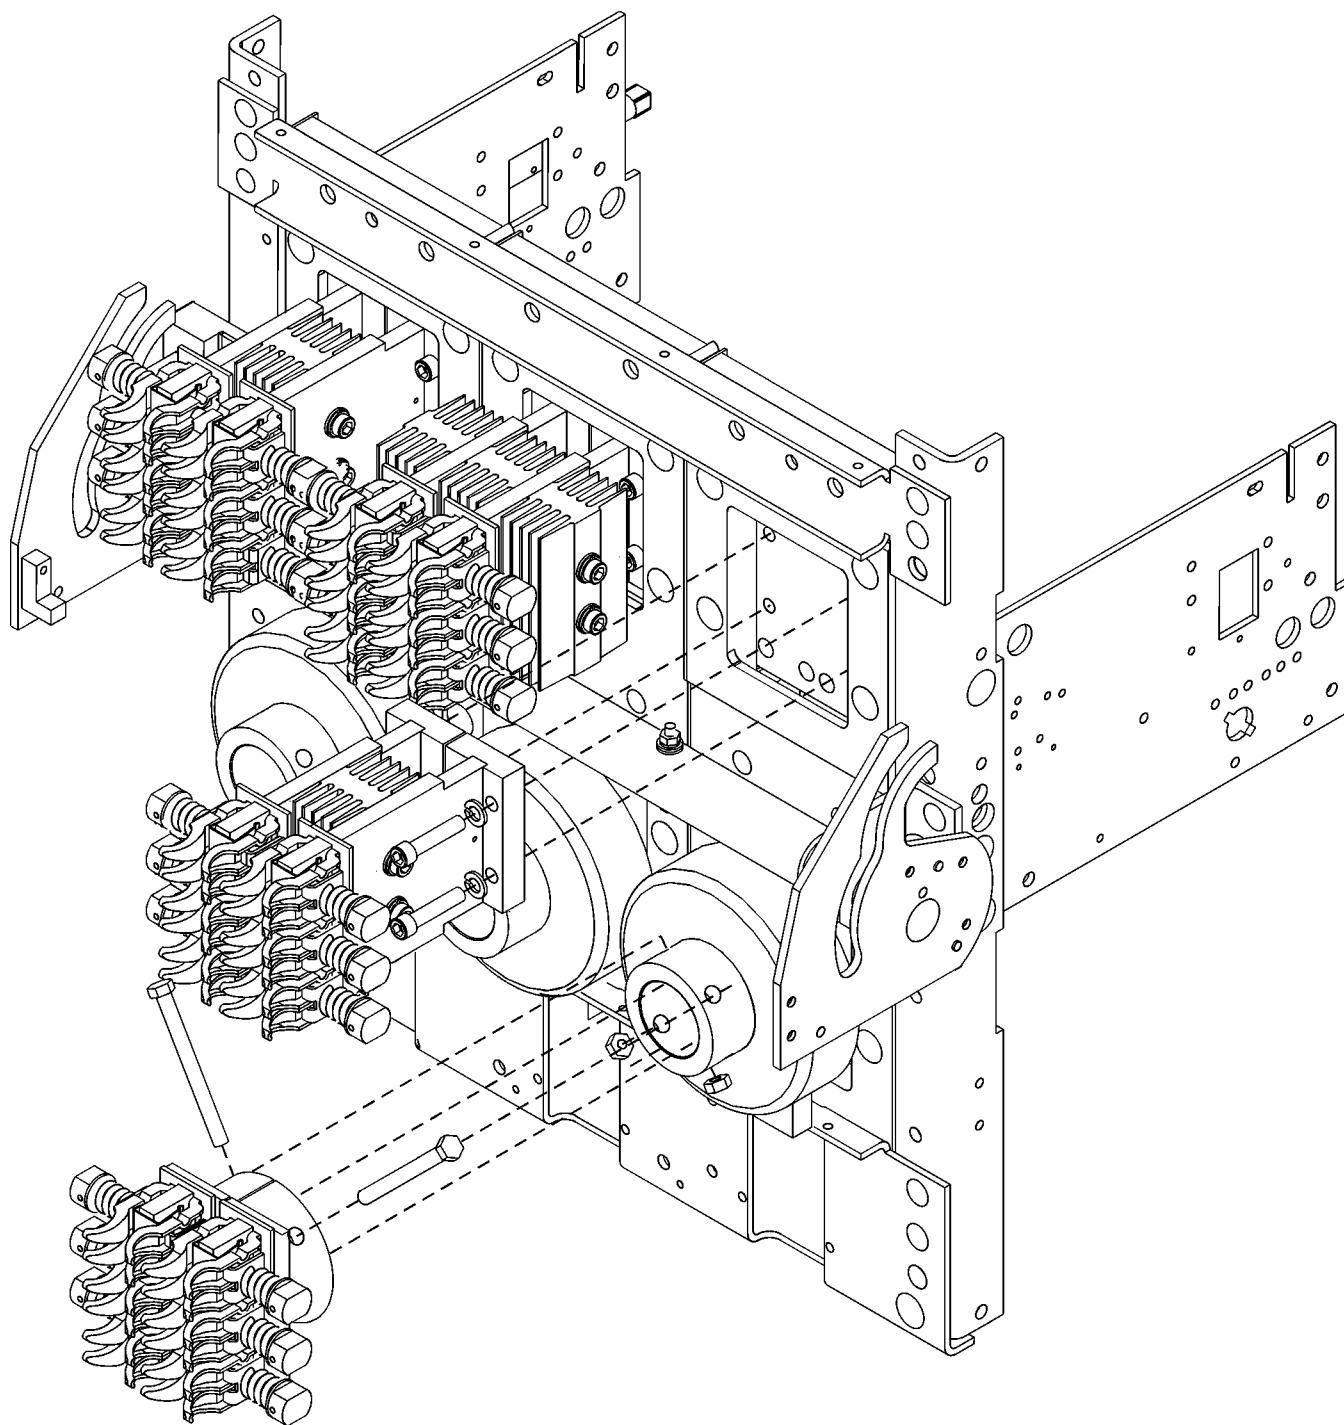

Figure 7-3. Removing or installing the primary disconnects.
To replace an upper primary disconnect pole assembly, remove the four bolts and lock washers attaching the assembly to the back frame, as illustrated in Figure 7-3. Put the replacement assembly in position, then insert the four mounting bolts and lock washers and tighten to 200–250 in-lbs of torque.
1. Remove the two screws and nuts attaching the primary disconnect to the lower stud, as illustrated in Figure 7-3, and lift off the disconnect.